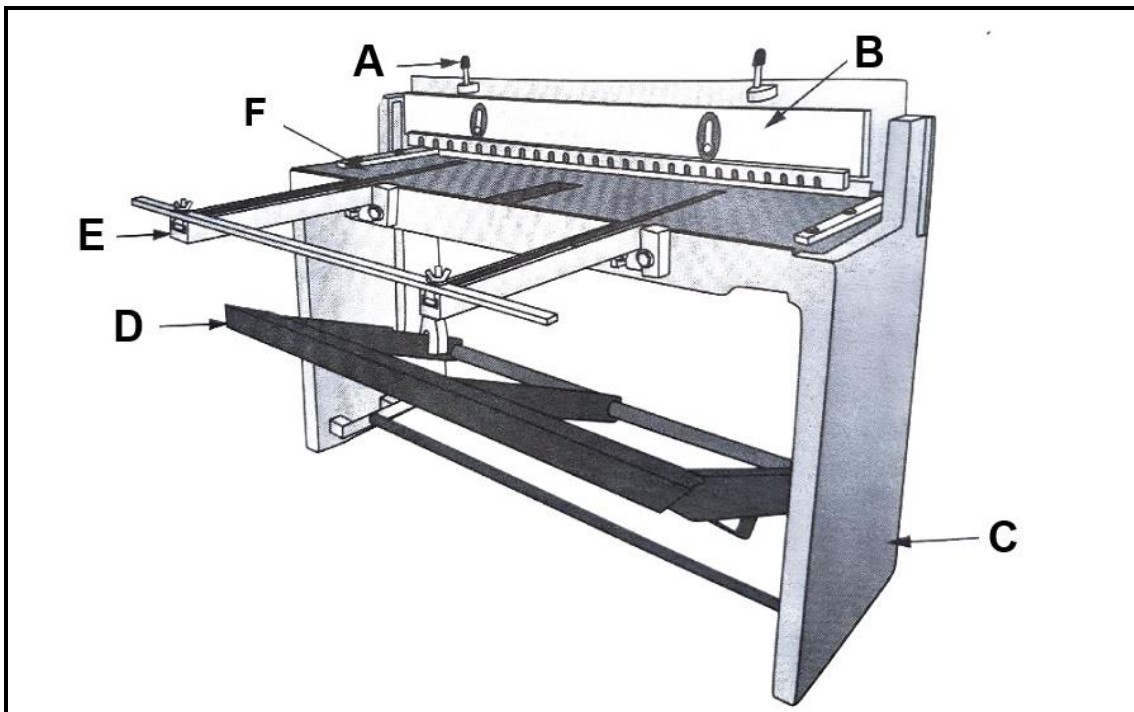

FIGURE 3.3
3.3 Study the diagram in FIGURE 3.3 below and answer the questions that follow.
3.3.1 Identify the diagram in FIGURE 3.3 above. (1)
3.3.2 What is the tool in FIGURE 3.3 used for in the workshop? (2)
3.3.3 Label parts **A–F** in FIGURE 3.3 above. (6)
3.3.4 What is the maximum thickness of materials the tool in FIGURE 3.3 above can accommodate? (1)